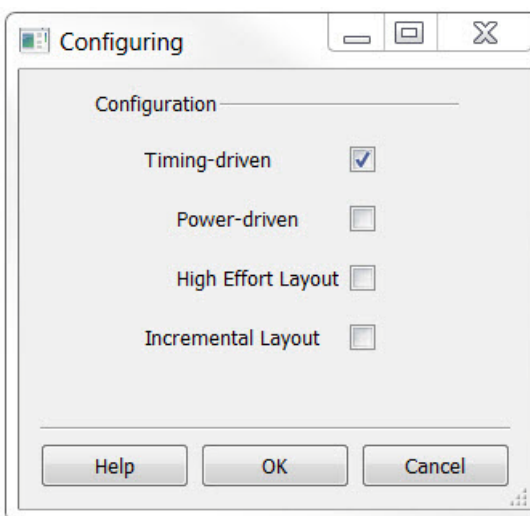

Figure 5-3 • Layout Options
- Right-click **Place and Route Layout** in the Design Flow window and choose **Configure Options** to set the Place and Route Options (Figure 5-3).